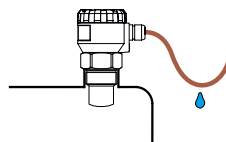

Fig. 12: Prevention of humidity ingress by droplets running down the cable
- It is suitable to run the cable under a cable bushing (obliquely down in slack) according to Fig. 12 to prevent **penetration of humidity**. Then the rain and condensing water can flow off freely.